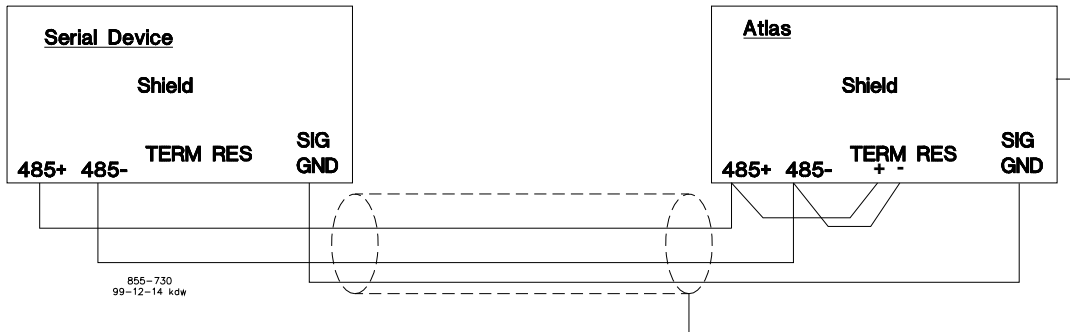

Figure 6-19. Wiring Example—RS-485 Interface to the SmartCore Board
- Refer to Figure 6-19 for RS-485 wiring. The data lines (485+ and 485-) and signal ground (SIG GND) must be properly connected as shown. In addition, the shield (SHLD) should be connected in at least one location. The last unit in the chain, and only the last unit, should be terminated with a resistor. The AtlasPC has resistors built in (TERM RES) for this purpose. The unit at each end of the network should be terminated.